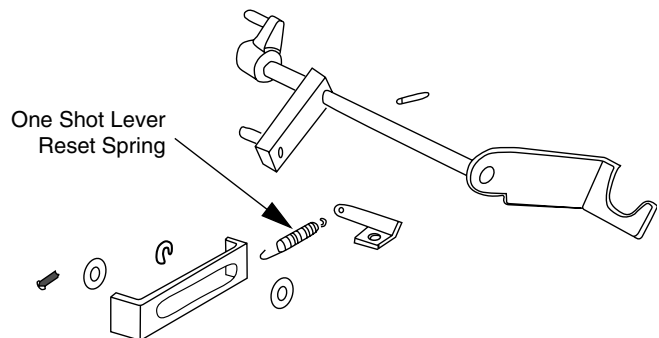

Figure 1. Remove C-rings.
1. Remove C-rings and pins that retain moving contact arm to contact links, Figure 1.